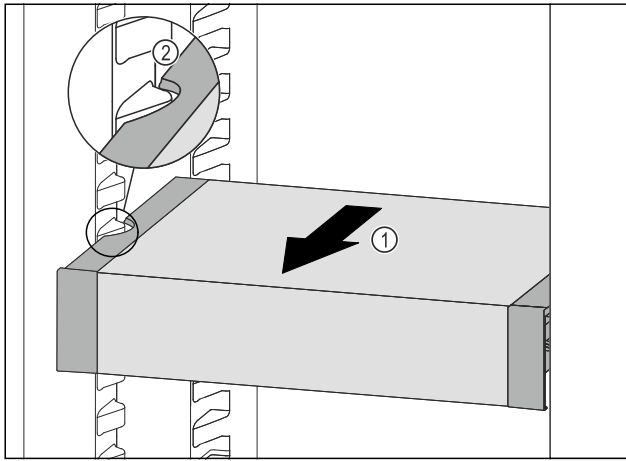

Fig. 96
- ▶ Pull VarioSafe forwards Fig. 96 (1) until the recesses in the side of the VarioSafe are at the level of the support rib in the fridge section. Fig. 96 (2)